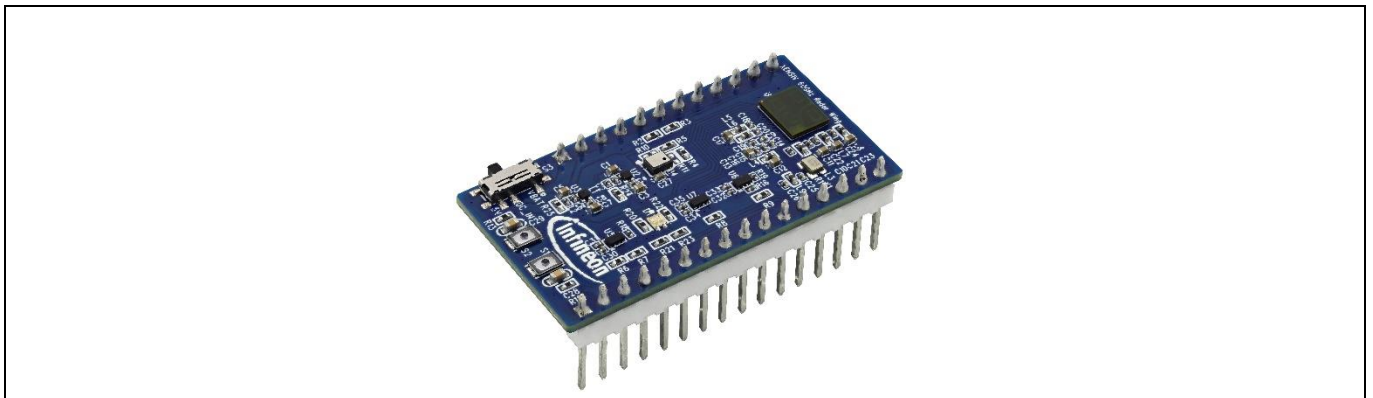

Figure 3 XENSIV™ BGT60TR13C wing
- XENSIV™ BGT60TR13C wing (EVAL_BGT60TR13C_Wing) (Figure 3)